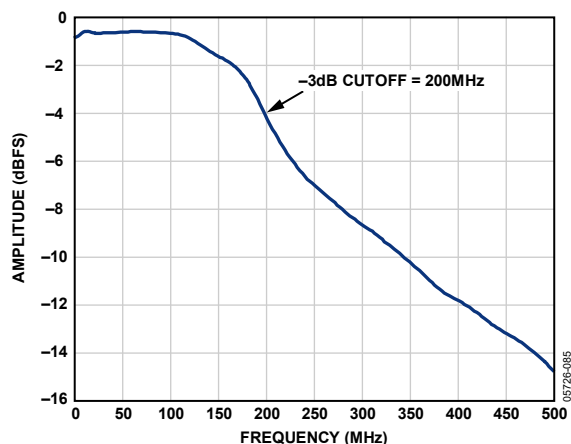

Figure 72. Evaluation Board Full-Power Bandwidth
- **AIN:** The evaluation board is set up for a transformer-coupled analog input with an optimum 50 Ω impedance match of 200 MHz of bandwidth (see Figure 72). For more bandwidth response, the differential capacitor across the analog inputs can be changed or removed. The common mode of the analog inputs is developed from the center tap of the transformer or AVDD_DUT/2.